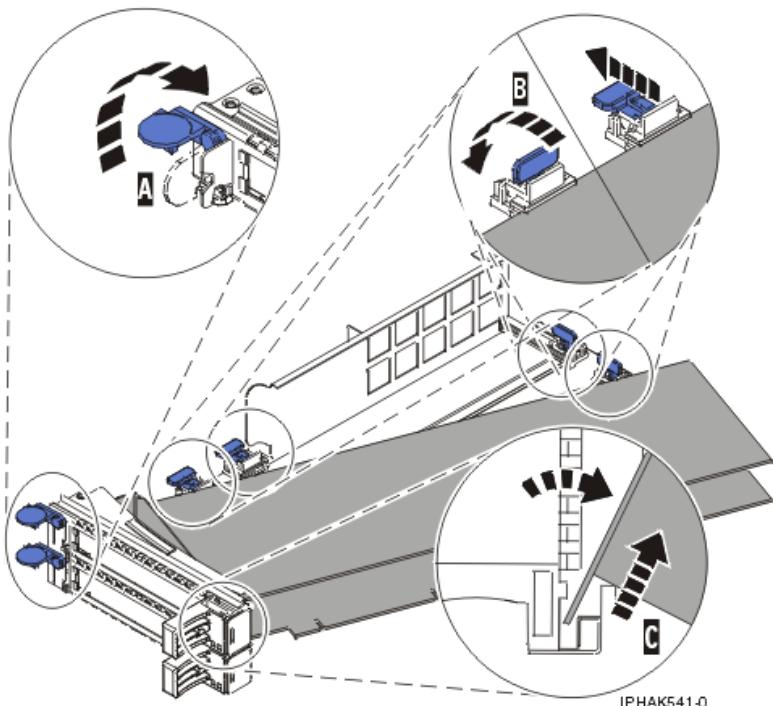

Figure 42. Adapter removed from the PCI adapter cassette
- a. Unlock the adapter retainers by rotating the retainer clip **A** into the horizontal position. See Figure 42 on page 59.